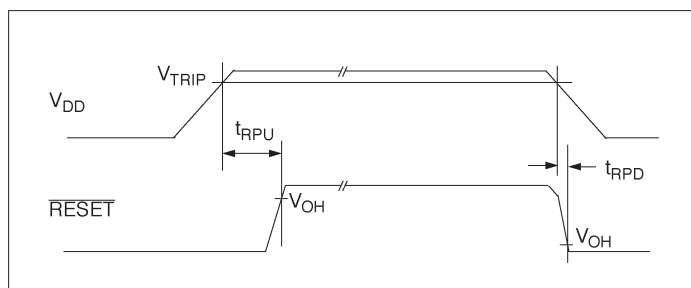

Figure 2. Timing diagram — reset at power up and power down.
**Figure 2** shows the timing diagram of the MCP120/130  $\overline{\text{RESET}}$  signal at supply switch-on and power down. As the supply voltage rises above the trip voltage ( $V_{\text{TRIP}}$ ) the chip allows a time period  $t_{\text{RPU}}$  (typically 350 ms) before it will release the  $\overline{\text{RESET}}$  line. At power down,